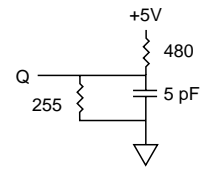

Fig. 2 OUTPUT LOAD EQUIVALENT
- tHZCE and tHZWE are specified with CL = 5pF as in Fig. 2. Transition is measured ±500mV from steady state voltage.